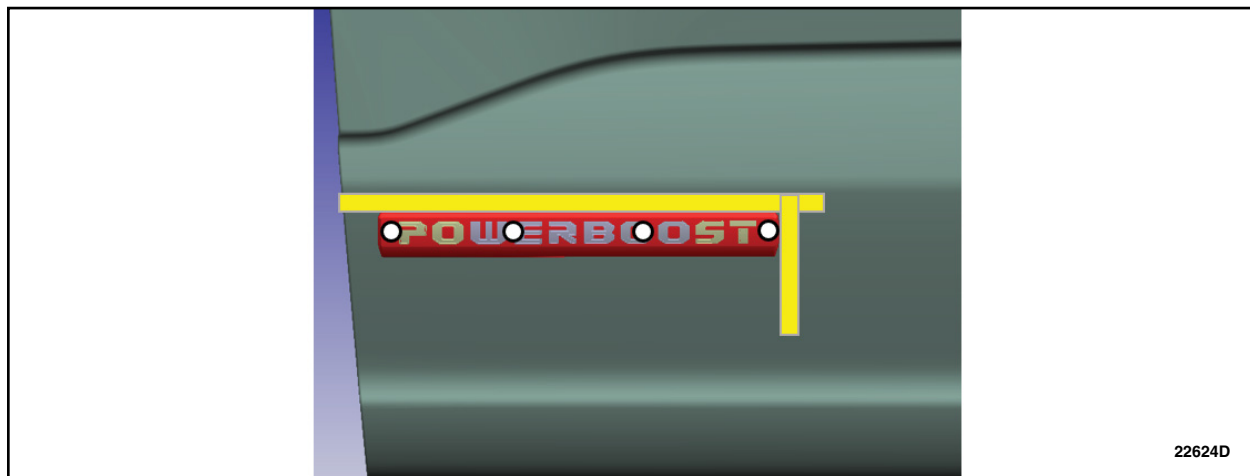

FIGURE 3
14. Remove the tape liner from the back of the badge and install to the door using the locating tape to properly align the badge. See Figure 3.
15. Using medium hand pressure, press for 3 seconds at a minimum of 4 separate locations along the length of the badge until the tape is fully adhered. See Figure 3.